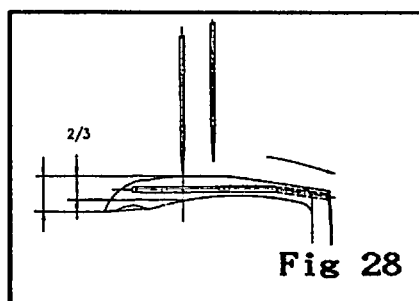

Fig 28
1. For the 2-needle machine, while the end of the left needle is in 2/3 position of the Looper. (Fig 28)